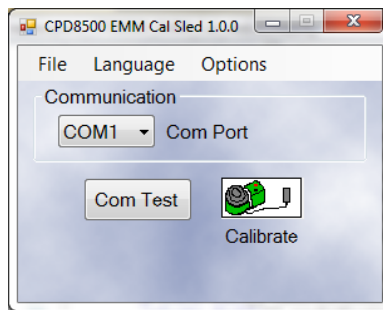

Figure 2.1 – Main screen
2. Start EMM Calibration program. It should appear as shown in Figure 2.1.